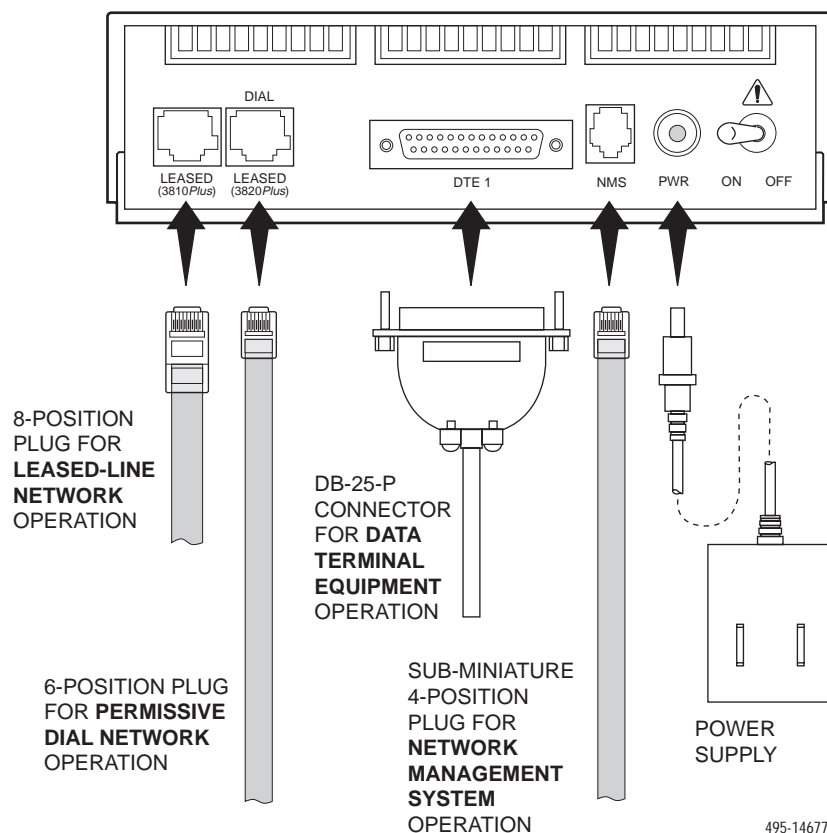

Figure 2-2. 3810Plus Rear Panel
The rear panel of a 3810Plus modem has the following switches and connectors (see Figure 2-2):
Figure 2-2 shows how 3810Plus modems are connected to certain TELCO jack types using the supplied cables. For other TELCO connections, refer to Appendix D.
2. Connect the DB-25-P (male) connector on the cable to the DB-25-S (female) connector labeled DTE 1 (Figure 2-2) on the modem's rear panel. Use a small screwdriver to tighten the cable to the modem.
1. Insert the 6-position, 4-conductor modular plug into the jack labeled DIAL/LEASED (Figure 2-2).
1. Insert the 8-position, 8-conductor modular plug into the jack labeled LEASED (Figure 2-2).
2. Insert the power transformer’s cylindrical connector into the modem’s rear panel power receptacle (Figure 2-2).
1. Insert the subminiature 4-position, 4-conductor modular plug of the 3600 Hubbing Device (Figure 2-3) into the jack labeled NMS (Figure 2-2).